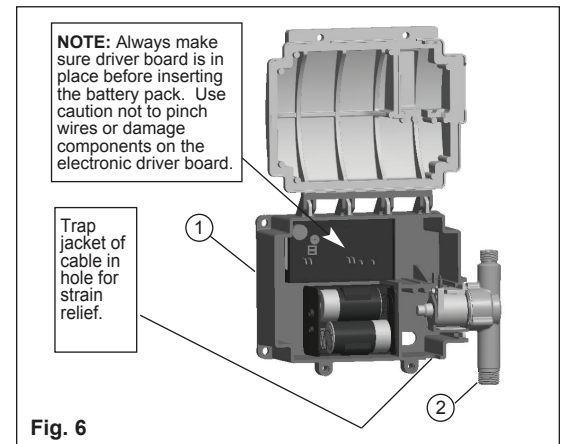

Fig. 6
Test for operation. If OK, then close lid - **Use caution not to damage wires or components on electronic driver board. See Fig 6.** Secure lid using screws. If faucet leaks from spout outlet: SHUT OFF WATER SUPPLIES. Check proper solenoid connection. Replace solenoid if problem persists. If faucet exhibits very low flow: A) Remove and clean Spray Outlet or B) SHUT OFF WATER SUPPLY. Clean or replace Screen Assembly (2). If unit does not work properly, see Trouble Shooting Guide on page 5.